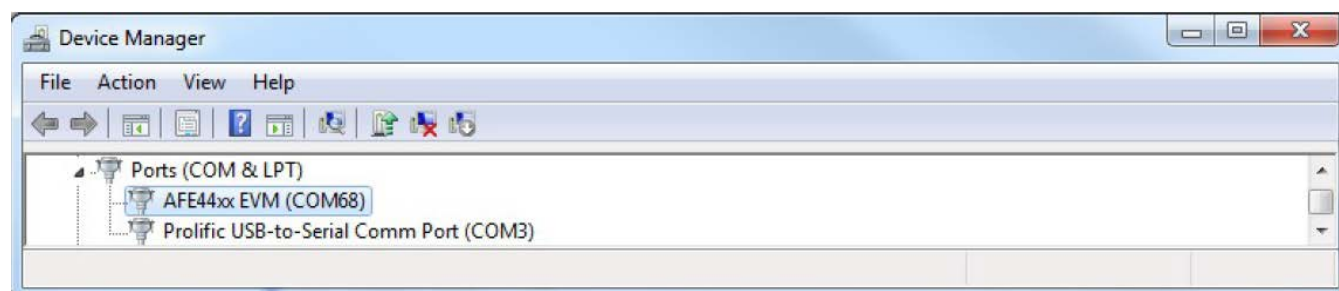

Figure 20. Device Manager Screen
- The AFE4900 EVM is now recognized as Virtual COM Port under the *Device Manager* as shown in Figure 20.